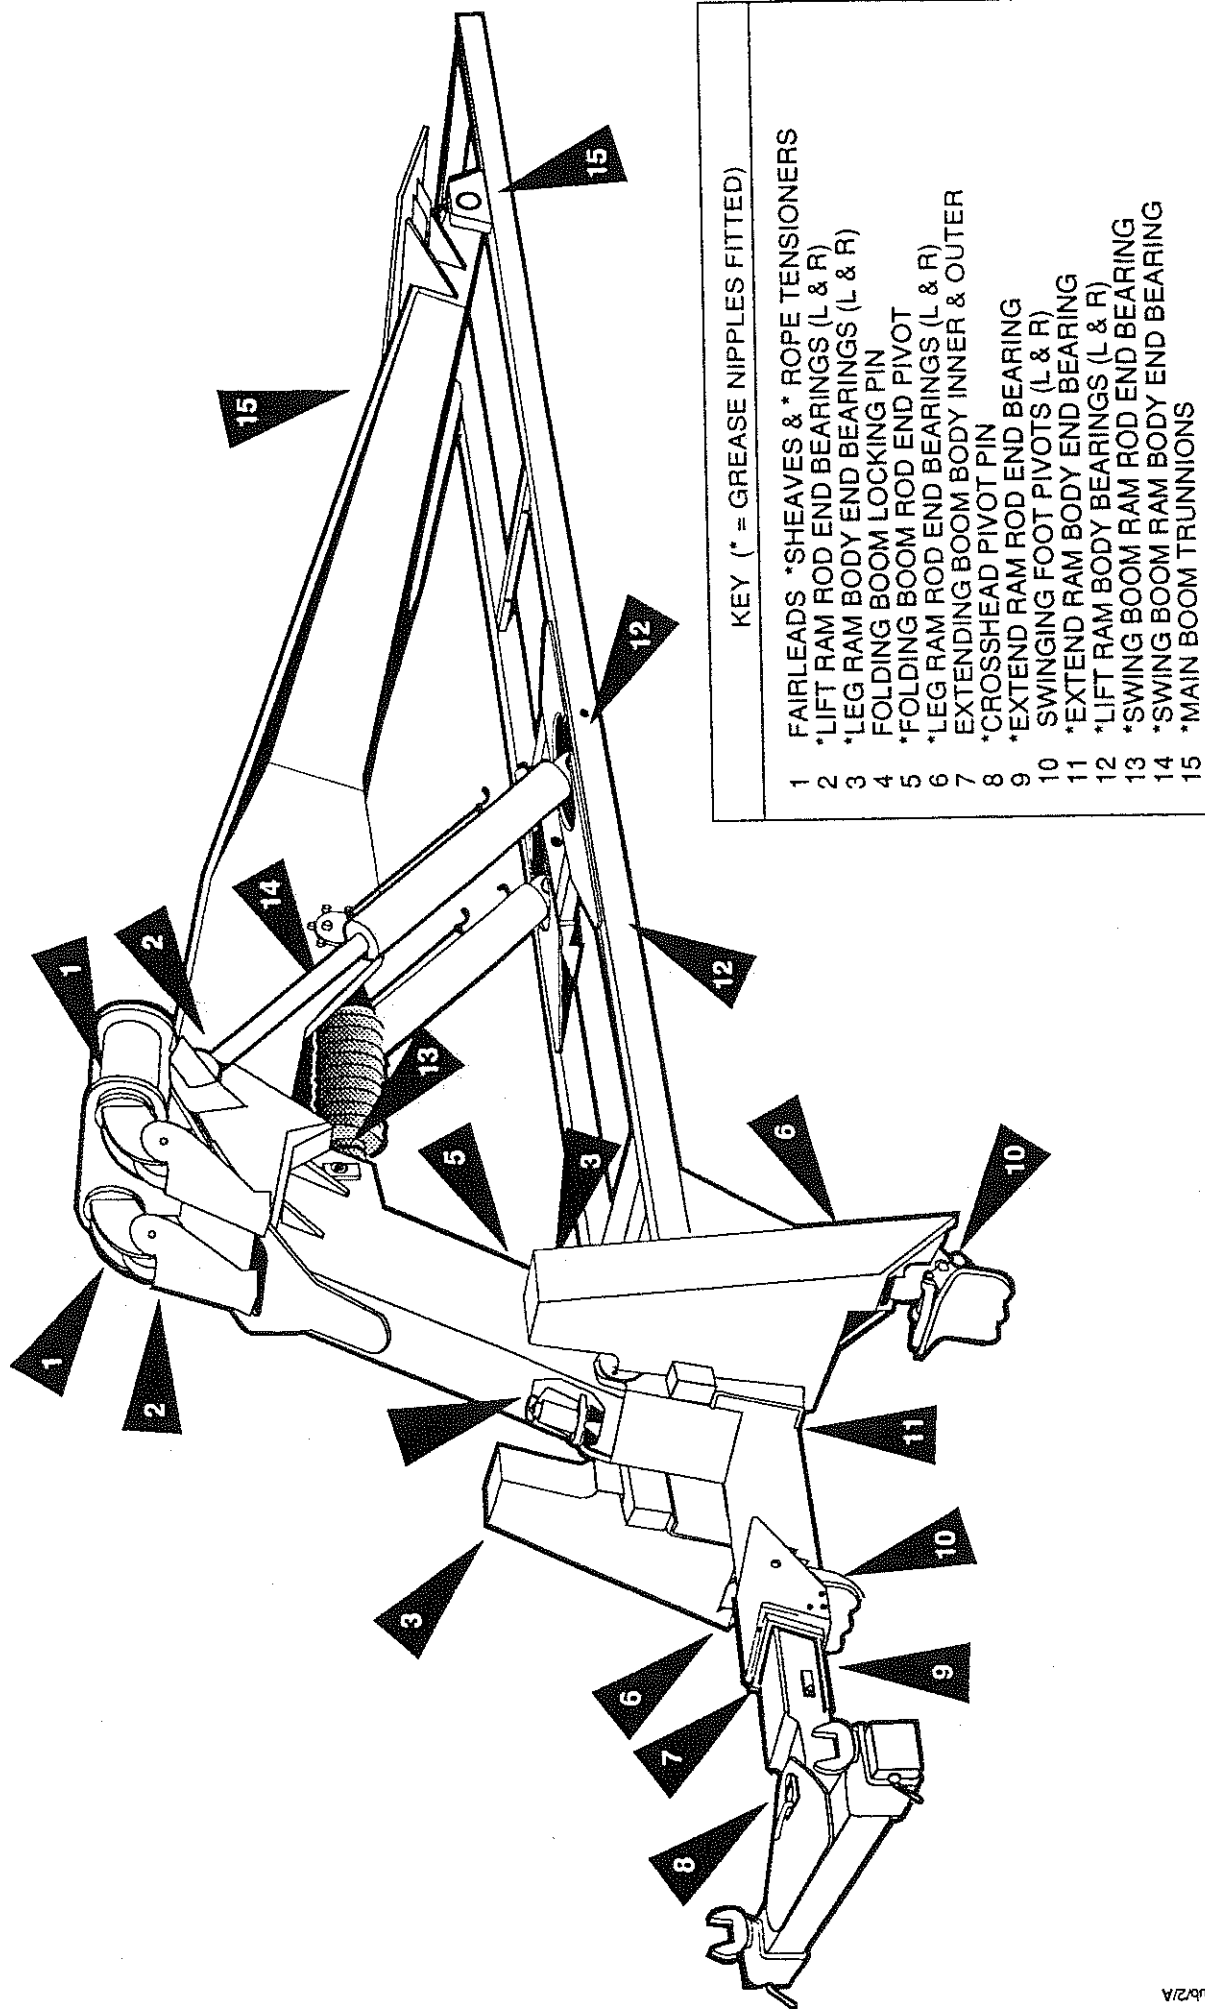

Figure 16 - Lubrication Diagram
- 4.3.1 Lubricate all round. See Figure 16 - Lubrication Chart.